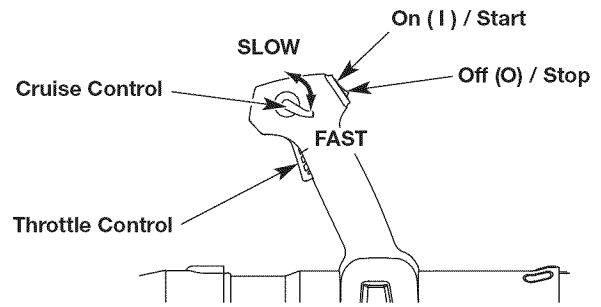

Fig. 10
NOTE: There is no need to turn the unit on. The On/Off switch is in the ON (I) position at all times (Fig. 10).
NOTE: DO NOT squeeze the throttle control until step 9 (Fig. 10).
2. Press and hold the On/Off switch in the OFF (O) position until the engine comes to a complete stop (Fig. 10).
NOTE: DO NOT squeeze the throttle control until step 11 (Fig. 10).
- Use the cruise control to make continuous operation easier (Fig. 10).